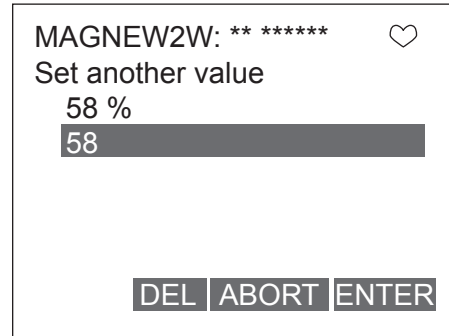
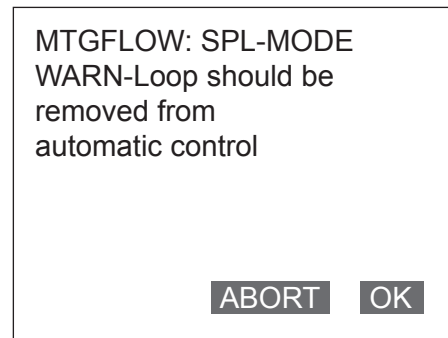

Fig. 7-71.
Fig. 7-72.
5. Fig. 7-71. will appear. When executing the adjustment, choose "SET" and press F4 (ENTER).
6. A numerical value input display (Fig. 7-72.) will then appear. Resistance of 10ohm is in between the check pin. Therefore, when the excitation current is 3.5 mA, approx. 35 mV will be output. Measure this value, and input the value by the mV directly. Press F4 (ENTER). The converter will start adjusting to 3.5 mA automatically, and return back to the display as shown in Fig. 7-71. Verify that the excitation current value is 3.5 mA, and terminate the adjustment.